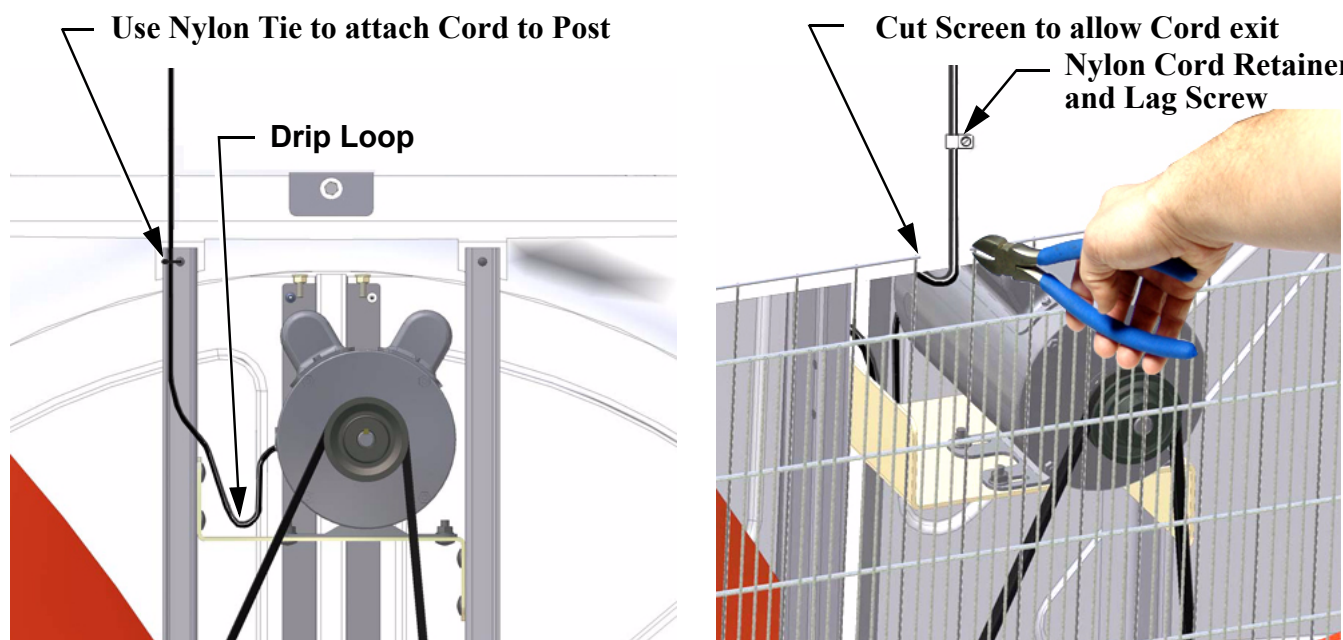

Figure 11. Wiring / Cord Routing
3. Route the motor cord (not supplied) toward the upper left corner of the Fan and attach the cord to the Motor Mount using the Cable Tie—included in the hardware package. Leave a Drip Loop so that moisture collecting on the Cord will not run down and damage the Motor (**See Figure 11**). Cut out a section of the Screen where you want the Cord to exit the Fan, so that the Screen can be removed without the Cord getting in the way (**Figure 11**). Use the Nylon Cord Retainer and Lag Screw provided to secure the Cord to the Wall outside of the Fan. (**Figure 11**)